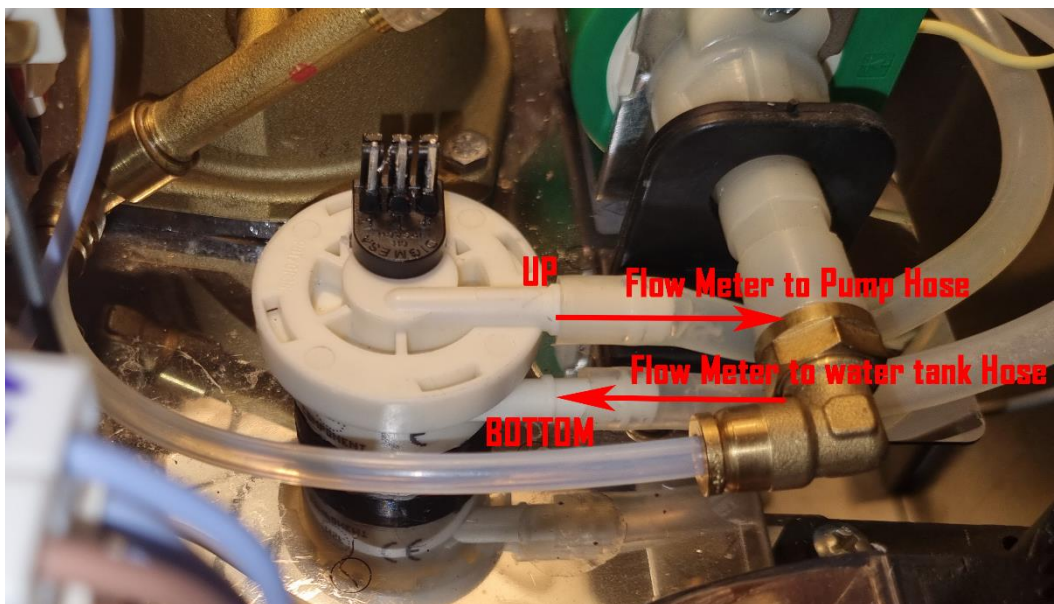

Fig. 4.4
- Take the modified hose attached to the pump and plug it in the flow meter sensor in the upper position, then take the provided HOSE from the bag and plug it in the flow meter in the bottom position, this one will go to the water tank (fig. 4.4)